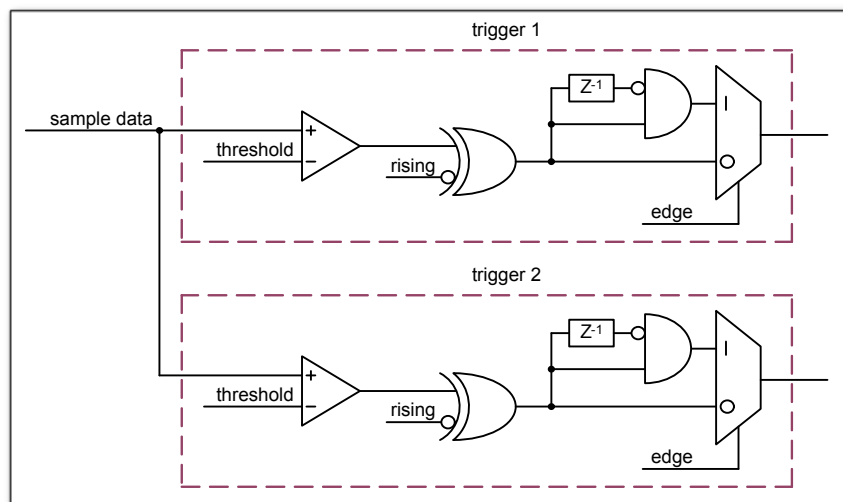

Figure 2.16: From the ADC inputs, a trigger unit creates an input flag for the trigger matrix. Each digitizer channel (A, B, C, D) has two trigger units.
- the 8 trigger decision units of all four ADC channels (Figure 2.16 on page 12)